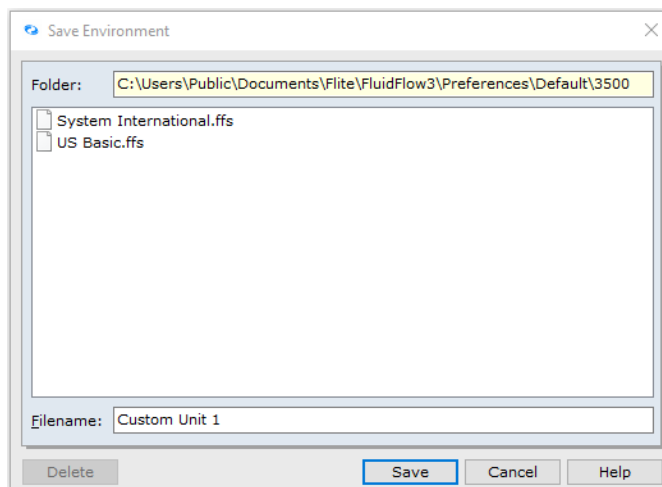

Figure 37: Modified Save Environment Dialogue Box.
35. On the *Filename:* section type **Custom Unit 1** and click Save (Figure 37).